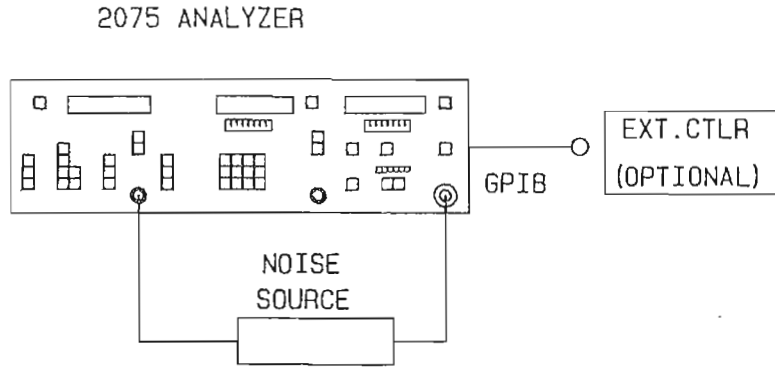

Figure 3-10a. TEST CONFIGURATION 4 CALIBRATION (DOUBLE SIDEBAND)
Figures 3-10a and 3-10b are the connection diagrams for calibration and measurement when external relays are not used. An optional setup can be used where external relays, controlled by the 2075, provide a calibration path. (See Paragraph 3-34, page 3-75.)
1. Connect the test equipment as shown in the calibration setup of Figure 3-10a or the optional setup where external relays are used to provide the calibration path.